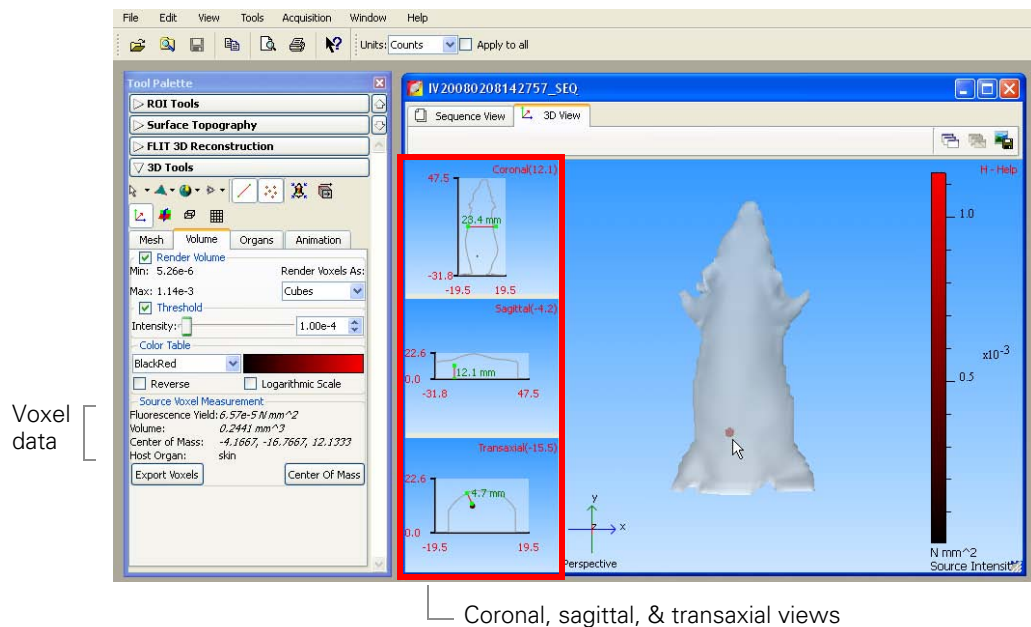

Figure 12.9 Example 3D reconstruction, FLIT results
- The Sagittal and Transaxial views show the distance between the voxel(s) and the dorsal or ventral surface (Figure 12.9).